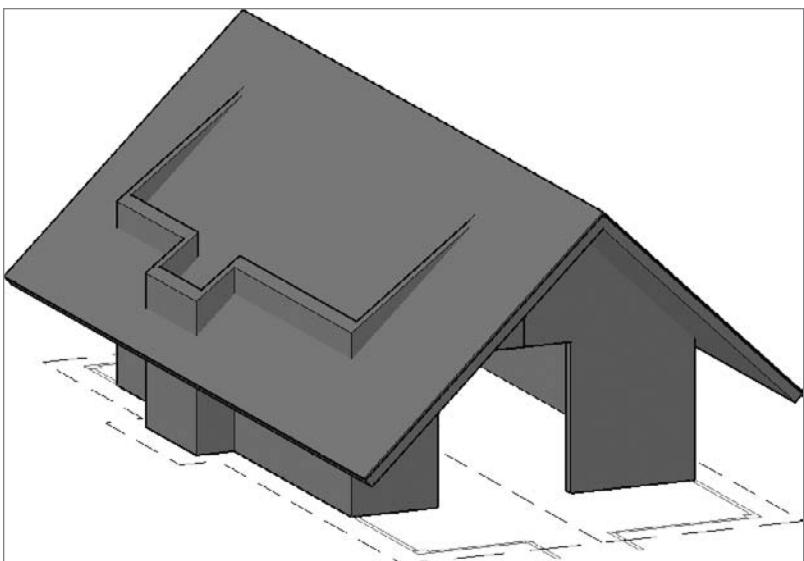

FIGURE 16.84 The cabin model with the roof and extended walls displayed
10. Thaw all of the A-ROOF layers; A-ROOF, A-ROOF-3DOB, and A-ROOF-DECK-3DOB. Using the ViewCube to look around the model, you can see that the northern walls and roof are largely OK; however, your walls are protruding out of the roof along the southern edge of your cabin (see Figure 16.84).